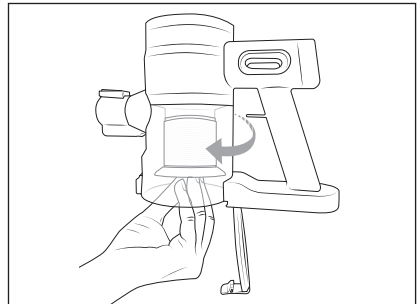

Fig. 11
- 2) Remove the stainless steel filter **6** and EPA filter **5** from the dust container **2** by turning the EPA filter **5** clockwise (see Fig. 11). Then pull the stainless steel filter **6** and EPA filter **5** down and out of the dust container **2**.